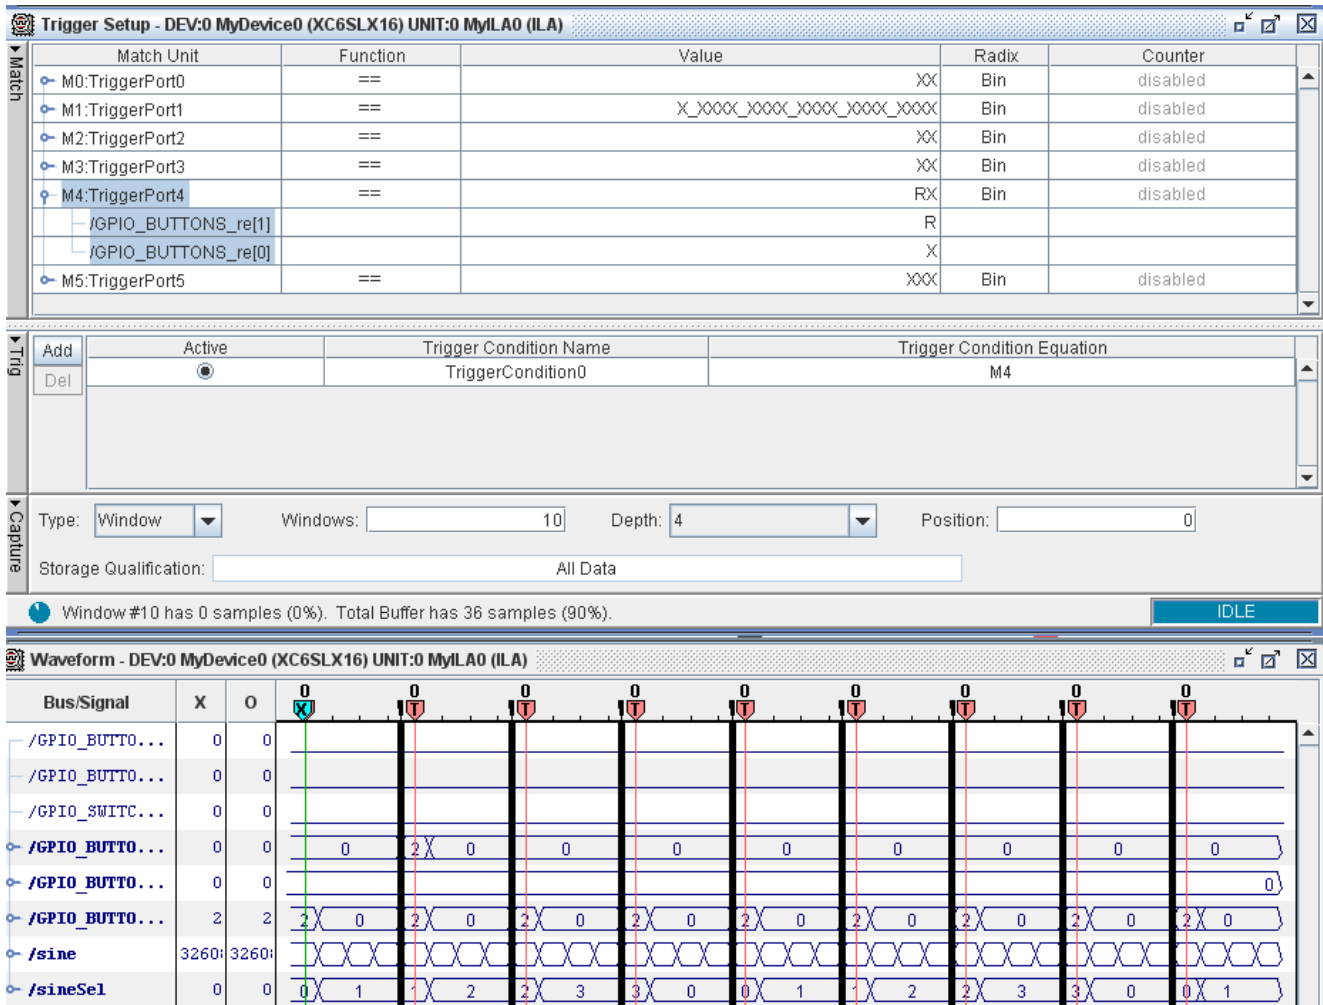

Figure 7: Sample View of Display Setting and State Machine Glitch
3. In the **Trigger Conditions** area of the **Trigger Setup** window, click inside the **Trigger Condition Equation** field. In the resulting dialog box, ensure that the appropriate match unit is enabled. You can tell that the correct match unit is enabled if it is highlighted in blue, as shown in Figure 7, page 17.
4. In the Capture area of the Trigger Setup window, shown in Figure 7, change the settings as follows:
3. Push the *Sine Wave Sequencer* button on the SP601 board. Each button push generates one or more “windows” that show segments of time on the time axis of the waveform. Observe the number of windows captured in the status bar that appears just below the capture settings. (The status bar is shown in Figure 7, page 17.) If more than one window is captured with a single push of the button, you have determined that there is an issue on the `GPIO_BUTTON[1]` input. If only one window is captured, try again. You might have to push the button several times to reproduce this intermittent glitch. As soon as a single button push generates multiple windows, go on to the next step.